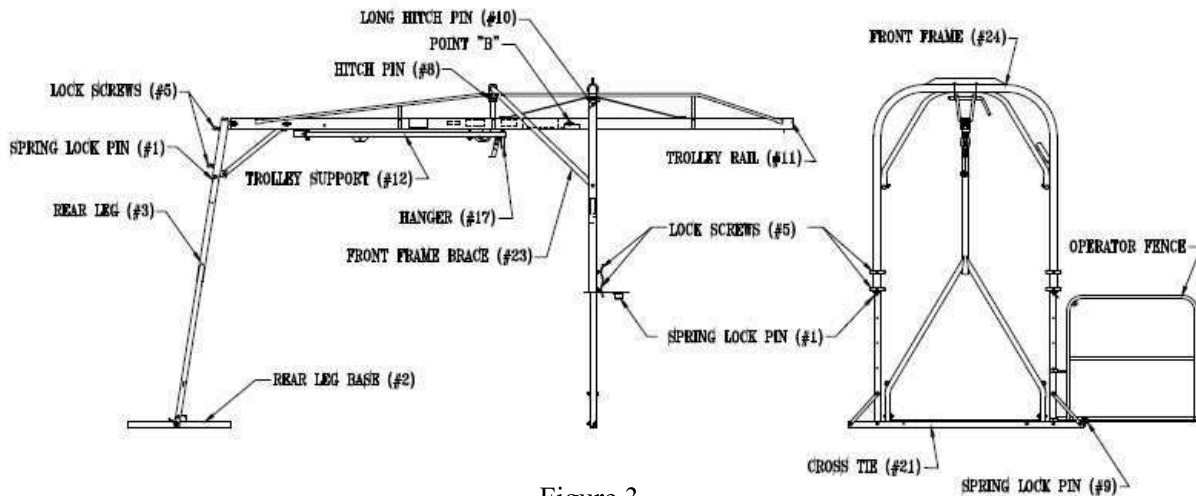

Figure 3
- Refer to Figure 3. Insert short hitch pin #6 through the trolley rail at point “ B” to prevent the trolley support #12 from rolling during transport and handling
- h. Refer to Figure 3. Raise the front frame brace #23 and tie temporarily to the top of the front frame assembly #24